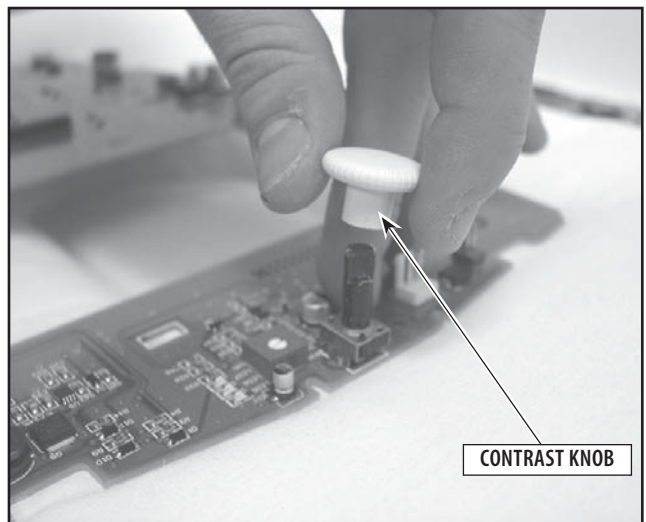

FIGURE 6.20
6. Remove the LCD Contrast Knob and retain for installation on the new Control Board. **Refer to Figure 6.20.**